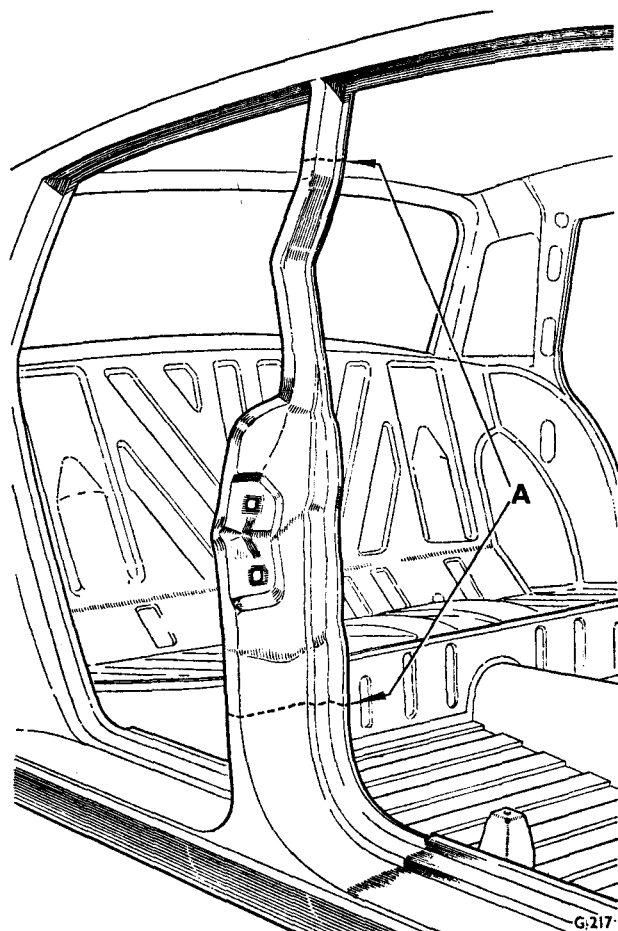

FIG. S95 CUTTING A DAMAGED SECTION FROM A BODY CENTRE PILLAR (4-Door Saloon or Long Wheelbase Cars)
8. In some cases due to welding difficulties or shortage of time, it may be advantageous to remove only part of the damaged panel or member and replace it by an identical section cut from a new panel or member. For example, if the centre door pillar requires renewal but the damage has not affected the extreme ends of the pillar, the pillar should be cut at arrows A as shown in Figure S95, and the new pillar cut to suit and gas welded in position (see Operation 6).